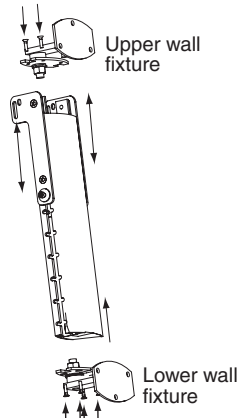

Figure 1
- ① Fasten the lower wall fixture inside the aluminum pillar with 4 countersunk M6 x 25 bolts (see Fig. 1).
- ② Push in the side fittings (see Fig. 1).
- ③ Fasten the upper wall fixture inside the aluminum pillar with 4 countersunk M6 x 25 bolts (see Fig. 1).